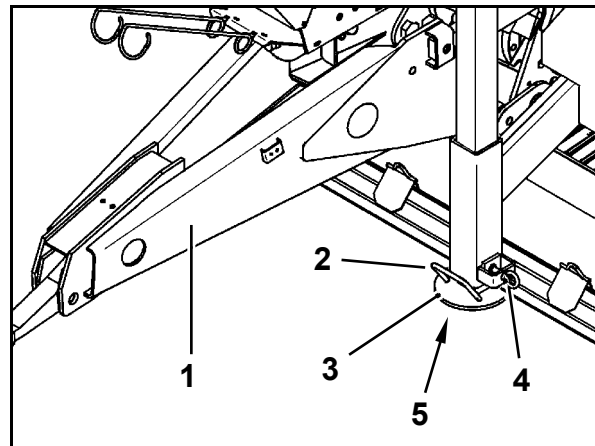

Fig. 55
1. Lift the machine hitched to the tractor via the hydraulic folding drawbar (1).
2. Pull the bolt (3) out of the borehole.
3. Grip the handle (4) and lift the supporting leg (2) until the bolt (3) engages into the borehole (5).
4. Check whether the bolt (3) has completely engaged into the borehole (5) and properly locks the supporting leg in its transport position (Fig. 55).
1. Lift the machine hitched to the tractor via the hydraulic folding drawbar (Fig. 55/1).
2. Grip the handle (Fig. 55/2) at the supporting leg (Fig. 55/3) and pull the bolt (Fig. 55/4) out of the borehole.